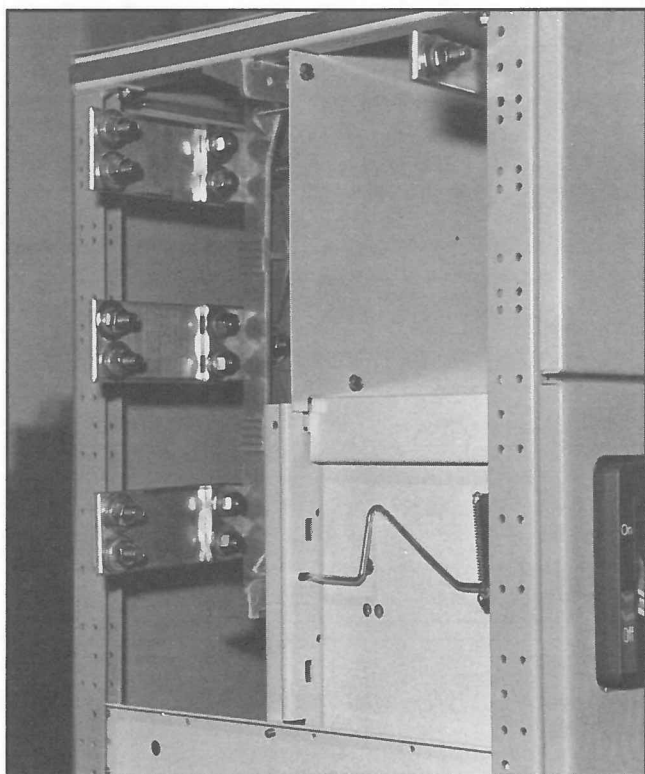
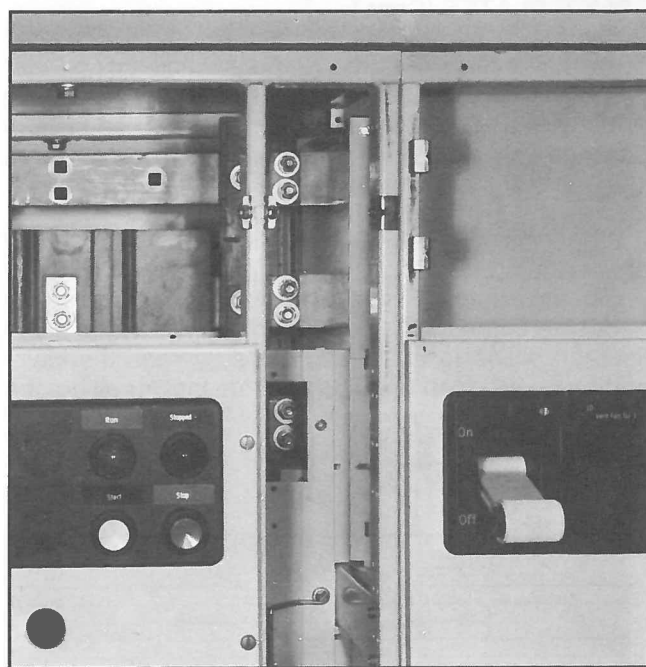

Fig. 4 Splice Plates Attached to RH Section
Fig. 5 Access to LH Splice Plate Connections
2. The horizontal bus splice plates and hardware will be shipped with the MCC attached to one end of shipping section. Refer to Figure 4. This method provides the most convenient access to the bolts, and eliminates the need to remove the horizontal bus barriers in that structure. Should the existing bus be oxidized, sand lightly with a fine aluminum oxide paper. **CAUTION** — Do not use emery cloth or any abrasive containing metal.
3. Remove the upper horizontal wireway door from the structure on the right side of the left hand (LH) section and remove the two-piece wireway barrier to provide access to the ends of the bus in that section.
7. Bolt the horizontal bus splice plates to the bus in the left hand structure, torquing all bus splice bolts to 275 pound-inches. See Figure 5.